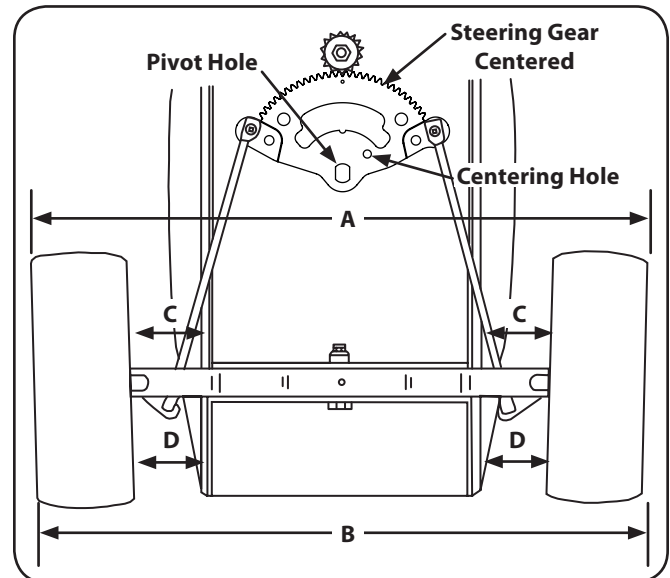

Figure 6-6
The front wheels should toe-in approximately $\frac{1}{8}$ to $\frac{1}{4}$ " , as measured across dimensions A and B. See Figure 6-6.
1. Check the steering gear to ensure it is in the centered position. The hole in the steering segment gear will align with the hole in the steering housing (See Figure 6-6).
3. Measure the distance between the bottom edges of the tractor frame channels and the marks on the front of each wheel (See measurement D in Figure 6-6). These two measurements should be equal.
4. Measure the distance between the frame and the marks on the rear of each front wheel (See measurement C in Figure 6-6). Measurement D should be approximately $\frac{1}{16}$ - to $\frac{1}{8}$ -inch less than measurement C on each side of the tractor.